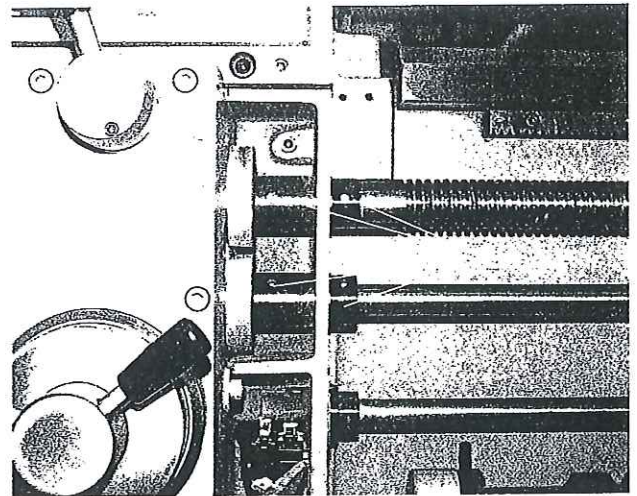

Figure 4
2. If the gearbox is in order and the feed or lead screws are not turning check the shear pins. (There are two shear pins on each shaft). (Figure 4)